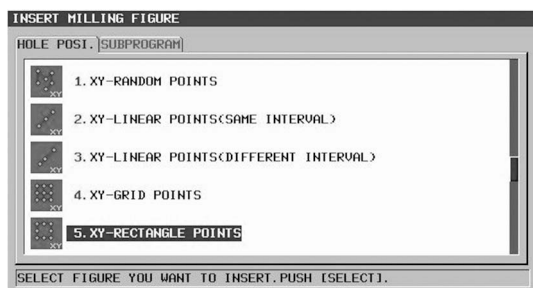

Figure 7-65 MILLING FIGURE,
- Choose item 5. XY-RECTANGLE POINTS from the HOLE POSI. tab (Figure 7-65) and press the SELECT soft key.